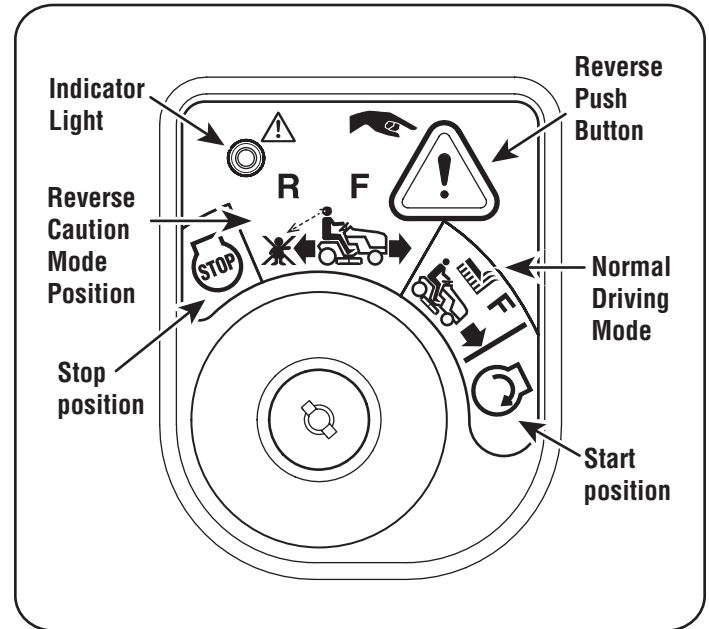

Figure 14
2. Turn the key from the NORMAL DRIVING MODE (Green) position to the REVERSE CAUTION MODE (Yellow) position of the ignition switch module. See Figure 14.
3. Depress the REVERSE PUSH BUTTON (Orange, Triangular Button) at the top, right corner of the ignition switch module. The red indicator light at the top, left corner of the ignition switch module will be ON while activated. See Figure 14.